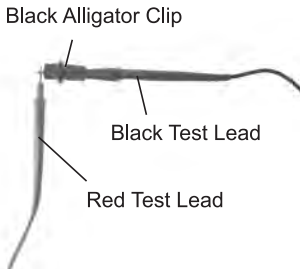

Figure 5
3. Refer to Figure 5, connect the black alligator clip to the red test lead probe. If the secondary display show a reading other than zero, press and hold down the " **TYPE** / **ZERO** " key for about 7 secs until the built-in buzzer sounds two beeps. The secondary display reads zero.